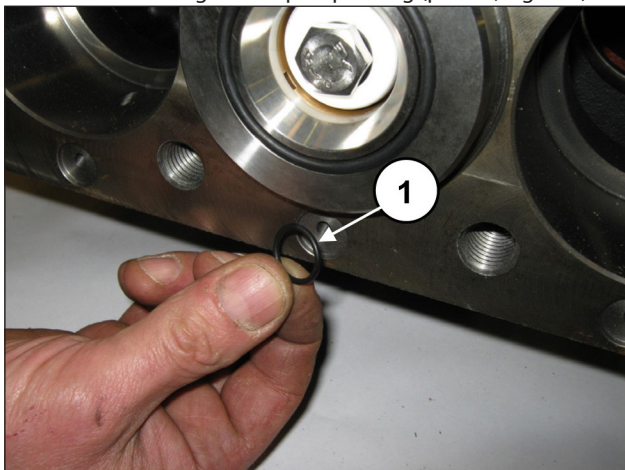

Fig. 134
Fit the 6 front O-rings in the pump casing (pos. ①, Fig. 134).